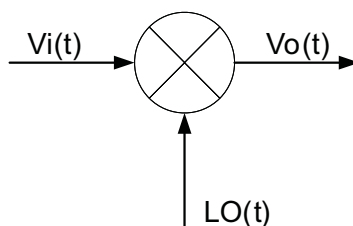

Figure 68. Block Diagram of Mixer Operation
The CW mixer in the AFE5809 device is passive and switch based; a passive mixer adds less noise than an active mixer. It achieves good performance at low power. Figure 68 and the equations describe the principles of mixer operation, where $V_i(t)$, $V_o(t)$, and $LO(t)$ are input, output, and local oscillator (LO) signals for a mixer respectively. The $LO(t)$ is square-wave based and includes odd harmonic components, as shown in Equation 1.